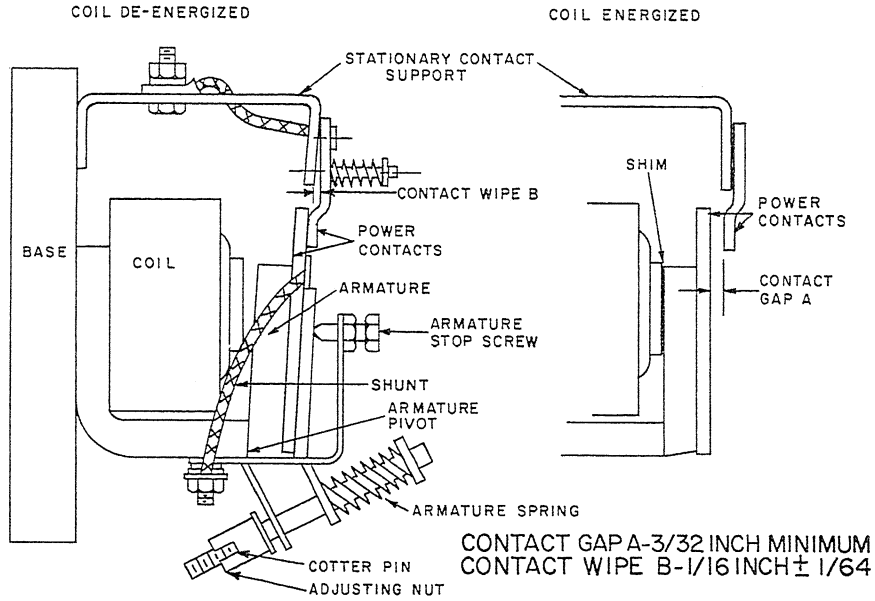

Fig. 3. Tip gap and wipe
Referring to Fig. 3, the armature stop screw should be adjusted to obtain the contact gap (A) and wipe (B). It may be necessary to slightly bend the stationary contact support to aid in obtaining these adjustments.
For the armature spring force (P1), the armature will release at time (T1), while if the spring force is decreased to (P2), a further decrease in flux is necessary before the armature releases, and the time delay is increased to (T2). Since the flux density in the magnetic circuit is above the point of saturation when the armature is closed, the time adjustment is substantially independent of the usual variation in line voltage. To adjust the spring force, remove cotter pin, Fig. 3, to free the adjusting nut. Replace after adjustment.
To replace the contactor coil, remove the hardware that mounts the lower shunt and the armature assembly to the frame. The complete armature assembly may then be removed without disturbing the calibration. Then carefully remove the bronze coil retainer to assure that no damage is inflicted on the core head. Damage such as burrsto the edge of the core will increase the effective air gap such that the timing is appreciably reduced. Replace the coil. Replace the bronze coil retainer being sure that it fits into the groove in the core. Replace the armature assembly being careful to correctly attach the shunt to frame assembly. Support (K) must fit into the V groove of bracket (L). Check contact gap and wipe as given in Fig. 3.